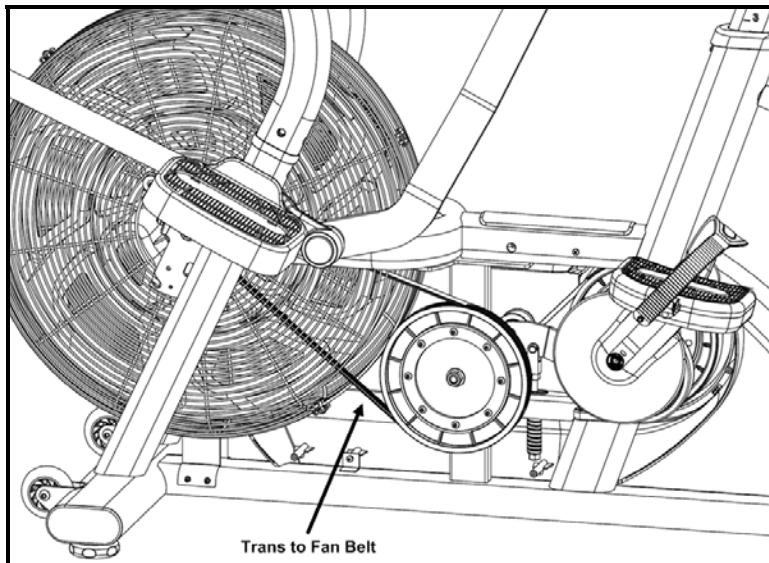

Fig. 13
15. Drive the transmission to fan belt (Fig. 13) off the large transmission pulley near the center of the base.